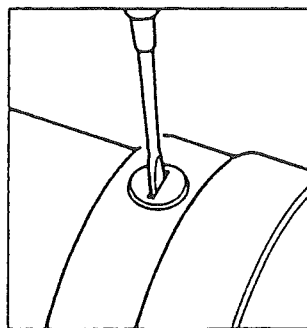

FIG. 9-1
- 1) Dismount the brush holder caps (FIG. 9-1).